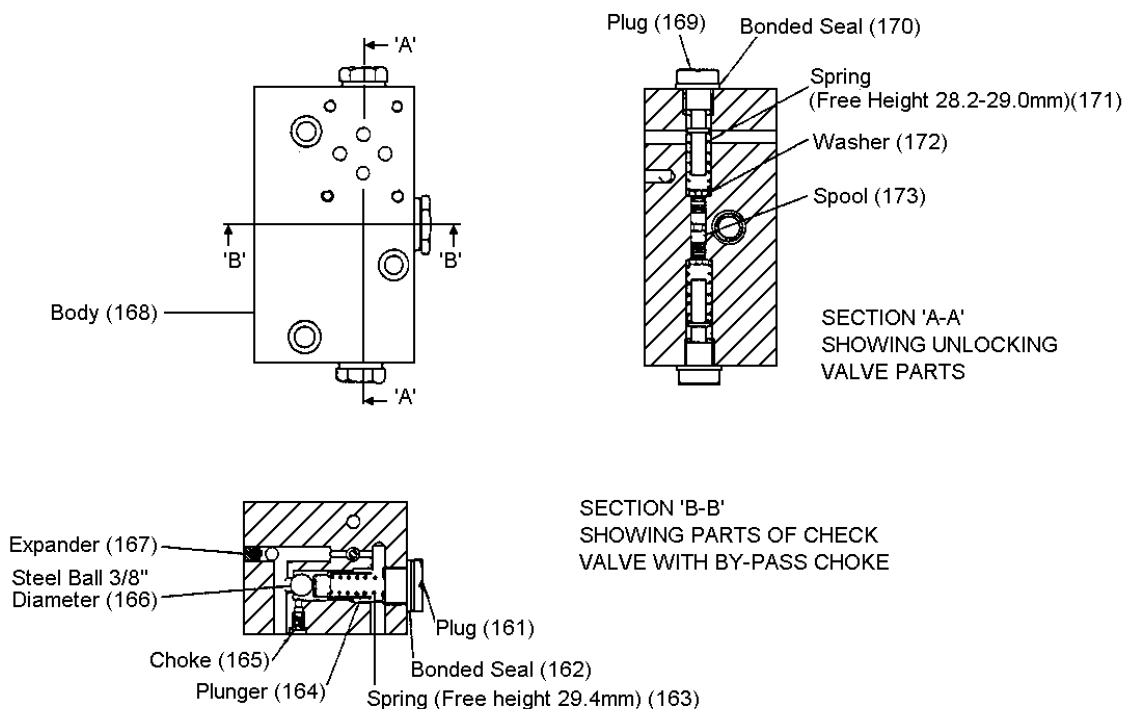

Figure 3: Hydraulic Parking Brake Control Unit - Multi Valve
2. Dismantle the unlocking valve as follows: (see Figure 3 Section AA)
7. Dismantle the check valve as follows: (see Figure 3 Section BB).